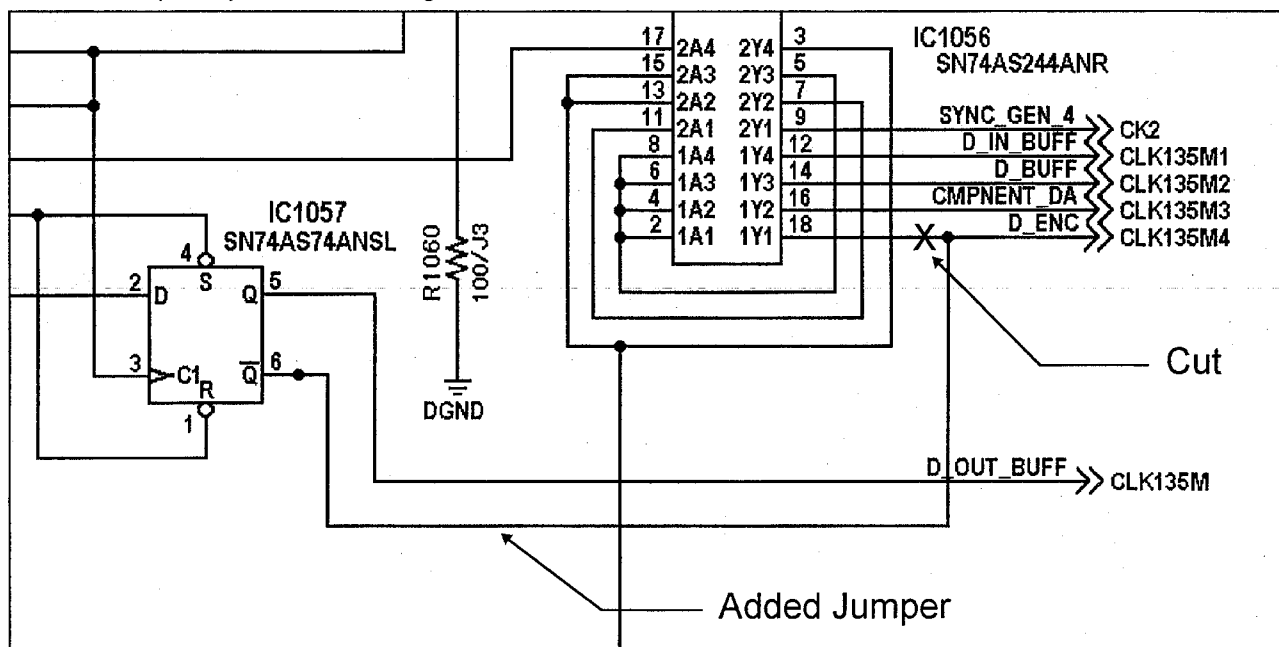

Fig. 1. Page 2-58 (C-7-9)
- 1). Cut the foil of (A) portion on the foil side as shown in figures 1 and 2.
- 2). Connect a jumper wire between pin #15 of IC303 and pin #6 of IC1057 on the foil side as shown in figures 1 and 2.